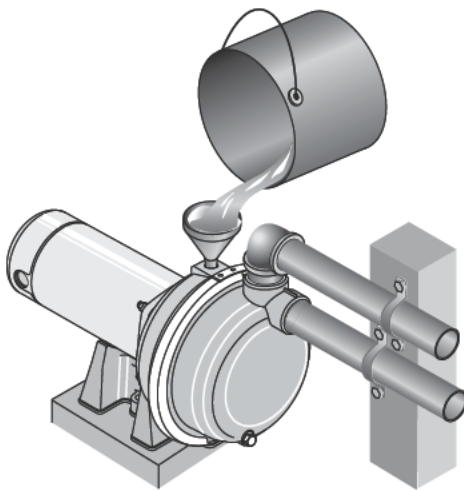

Figure 5 - Fill Pump Before Starting
Step 3. Fill pump and suction pipe with water (Fig. 5).